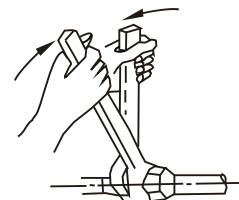

Fig.9-2
- Put the connecting pipes at the proper position, wrench the nuts with hands then fasten it with two wrenches simultaneously. (Refer to Fig.9-2)